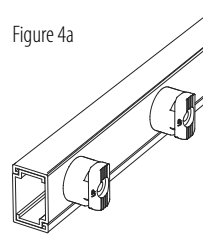

Figure 4b
- Ensure Quick Lock connectors are in a vertical position. (Figure 4b)